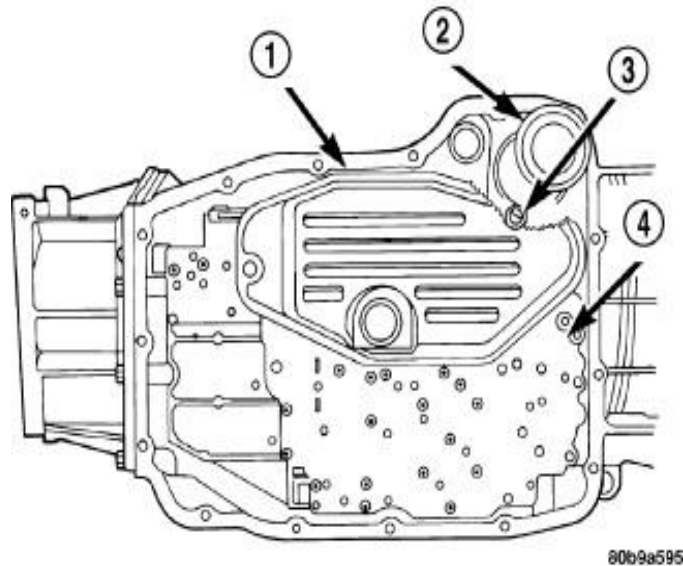

Fig. 1 Primary Sump Oil Filter
6. Remove the primary sump oil filter from the valve body (Fig. 1).